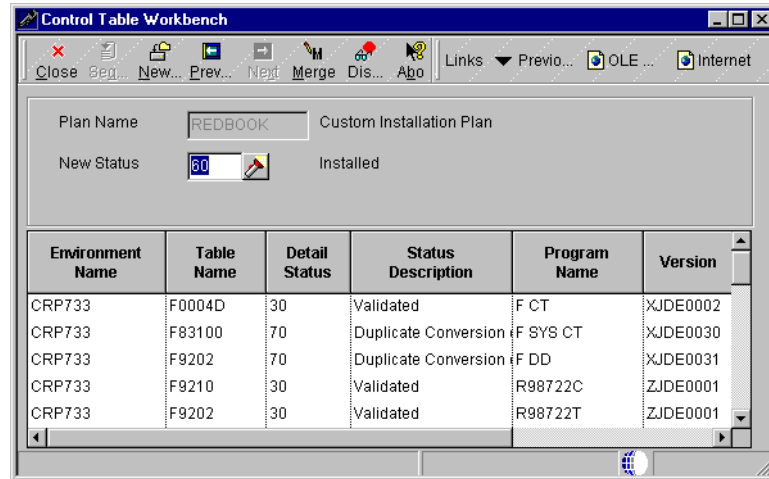

Figure 259. OneWorld Control Table Workbench
1. On Control Table Workbench, OneWorld displays all control table merges in the detail area. On the Control Table Workbench form, the Plan Name field contains the name of your language plan. Your display should look similar to the example in Figure 259.